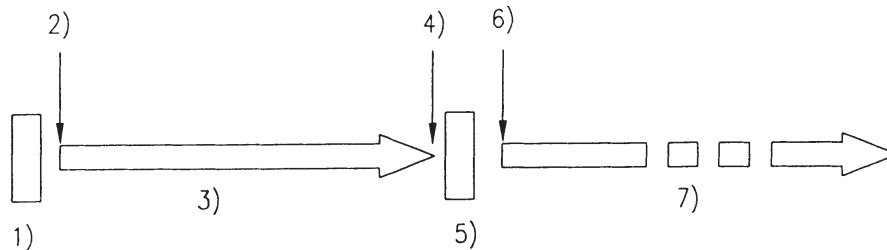

Figure 12
- Figure 12 shows the relationship between the play and pause.